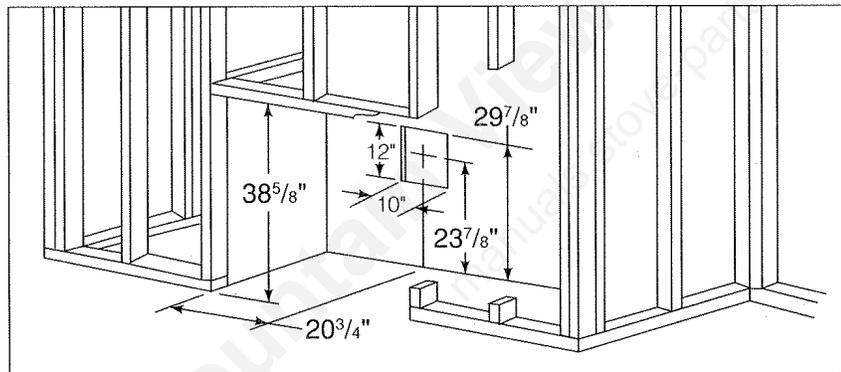

Figure 3
At the back of the cavity a 10" x 12" hole must be cut and framed in. If the wall is non-combustible, such as masonry block or concrete, a 9" diameter round is acceptable. See Figure 3 for hole location. Proceed to STEPS 1B through 5B for elevated installations.
Position the interior wall shield into position and secure with (4) fasteners, (1) in each corner. See Figure 3.